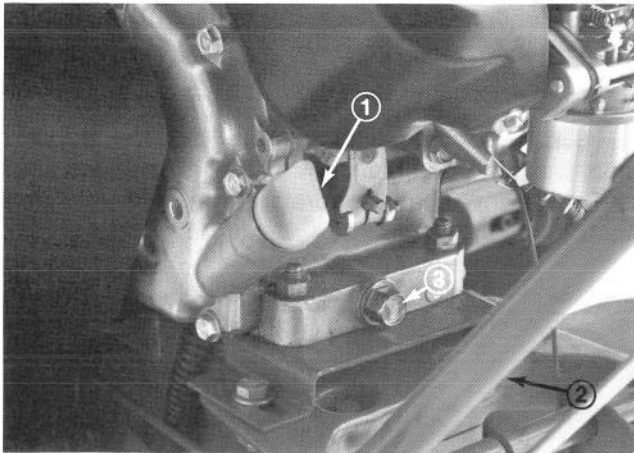

Figure 30
2. Stop engine, place a drain pan under plug in crankcase on handle side of engine, remove oil drain plug and allow oil to drain into drain pan (Fig. 30).
3. Install drain plug; remove oil fill plug (Fig. 30), assure engine is level and fill crankcase with fresh clean oil; refer to Add Oil, page 6.